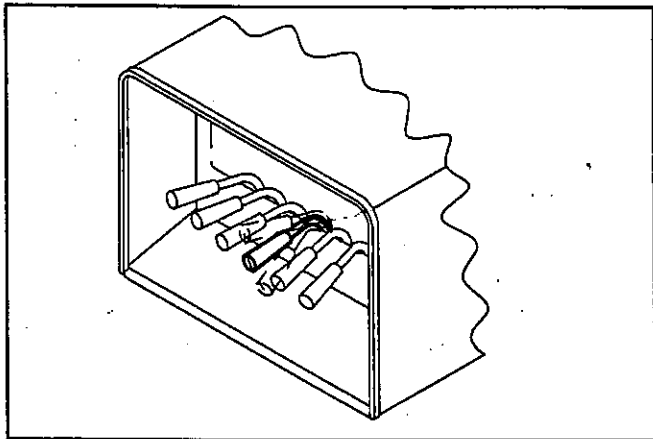

Figure 5-5 HD CL Bumper Controls
**5-4.2** In order to keep the unit stabilized during loading and unloading, the bumper must be in firm contact with the ground when the center of gravity of the load on the bed is behind the truck's rear axle. See Fig. 5-5 for handle positions.